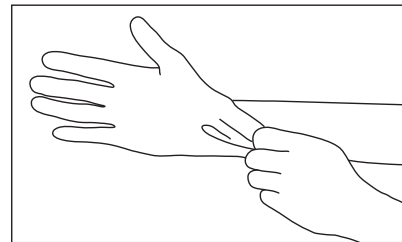

Fig. 5
- 1) Always wear protective gloves, a mask, and protective goggles for safety purposes and to minimize the risk of infection (Fig. 5).